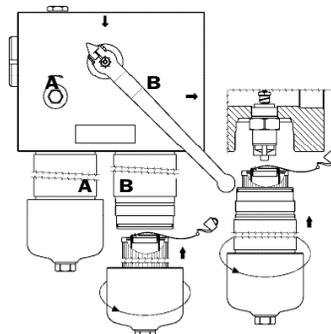

Fig. 5
- 5** Lubricate the filter element seal with the operating fluid prior to installation (see fig 5).